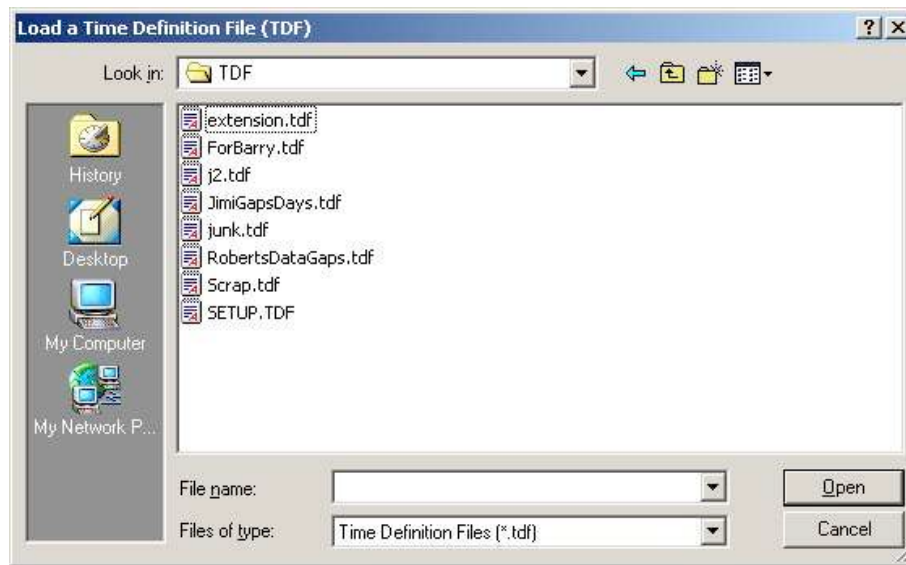

Figure 43: TDF Selection Window
- Select a file and click the “Open” button on the “Select TDF File” window (see Figure 43).